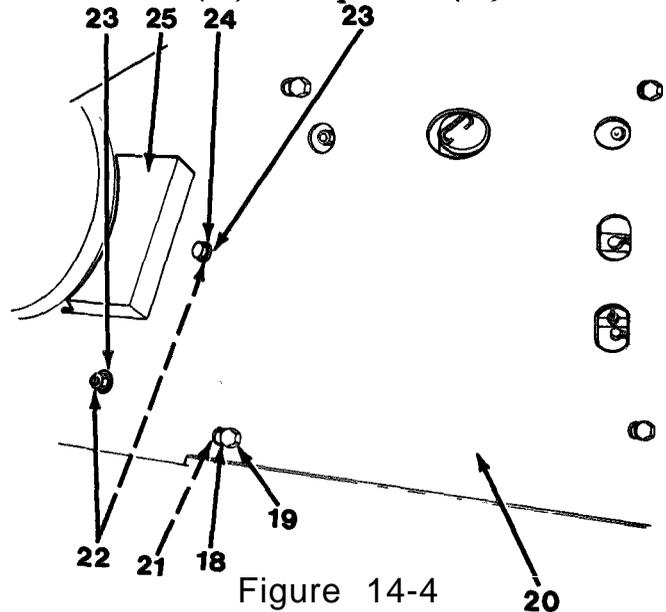

Figure 14-4
1. Remove five capscrews (18), washers (19), deck plate (20) and five clips (21, Figure 14-4).
2. Remove three nuts (22), four washers (23) and capscrew (24).
3. Remove pinion cover (25).
1. Install pinion cover (25, Figure 14-4).
2. Install washer (23), capscrew (24), three washers (23) and three nuts (22).
3. Install five clips (21), deck plate (20), five washers (19) and capscrews (18).